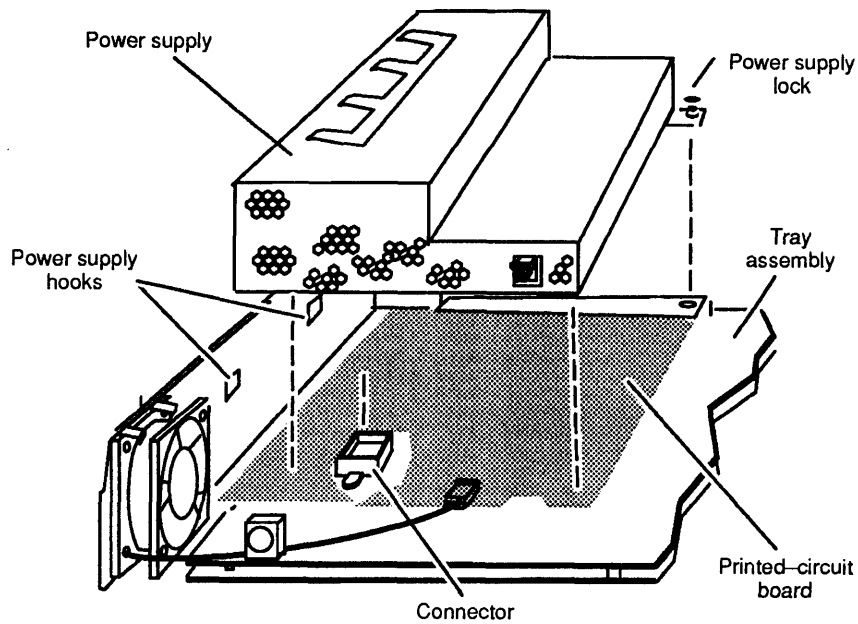

Figure 4-44 Removing the Power Supply
4. Lift the power supply up and out of the tray assembly, as shown in Figure 4-44.